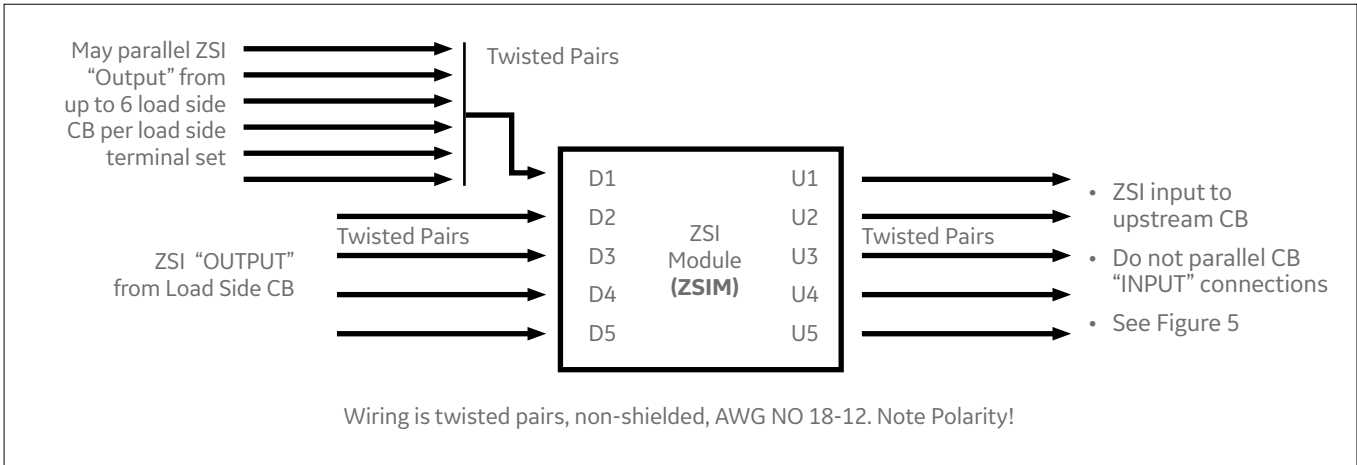

Figure 3: Wiring Diagram Showing "Upstream" and "Downstream" Connections
- No more than six parallel “OUTPUTS” are used per downstream terminal set at the ZSI module (e.g. D1; D2; D3; etc.) See Figure 3.
- Wiring is per Section 3 (Wiring) and Figure 3.
- Wire the module in accordance with Section 3 (Wiring) and Figure 3.